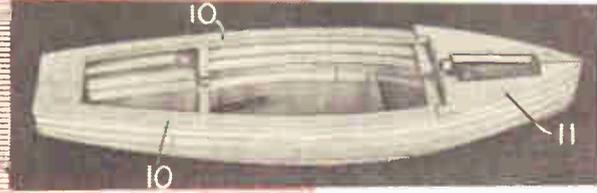

FIG. 7
now be added by gluing. Fig. 7 shows the deck pieces (10) added in place, and how piece 11 is shaped down from the bow to come level with piece 10.